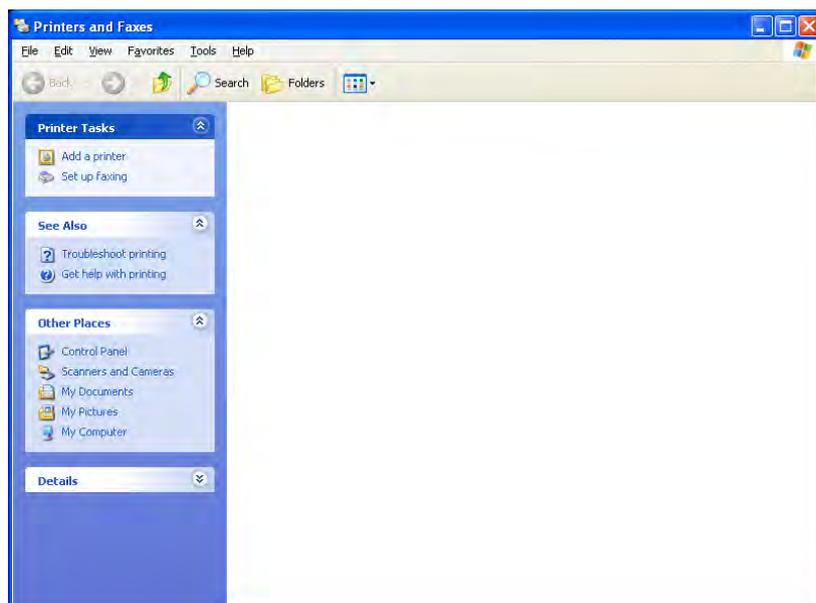

Fig. 5-9 Printers and Faxes
**Printers and Faxes** allow users to configure printers and faxes connected to the system. Setup options include **Add a printer**, **Set printer properties**, **Share a printer** and **View printer tasks**. The setup procedure is the same as that for the Windows screen. The **Printers and Faxes** screen is shown in Fig. 5-9.